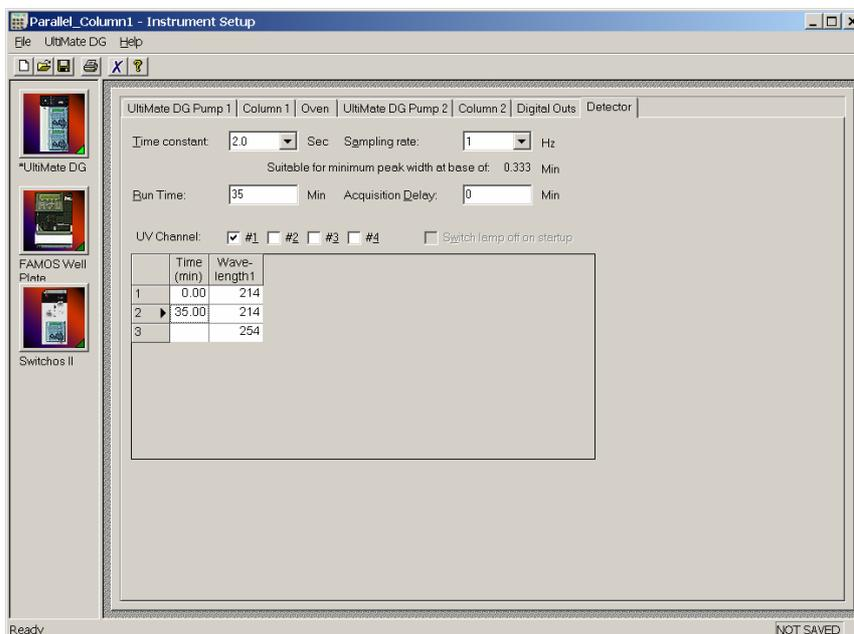

FIGURE 3-19 The UV Detector Setup Window
- e) If the UltiMate UV Detector is part of the configuration, select the **Detector** tab and setup the wavelength parameter as presented in FIGURE 3-19. For more programming details refer to Section 2.5.1 B.